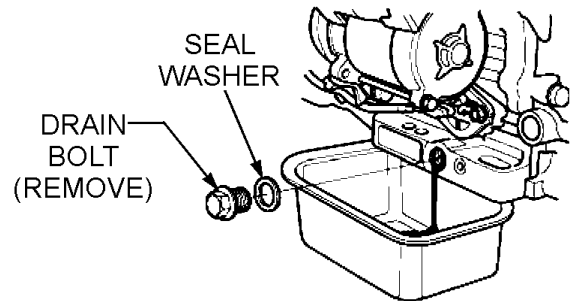

Figure 30. Draining Engine Oil
1. Drain the engine oil when the oil is warm as shown in (Figure 30).